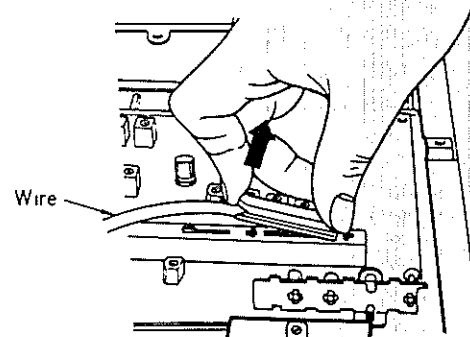

Fig. 23
9. Remove the switch wire in the direction of arrow, as shown in fig. 23.